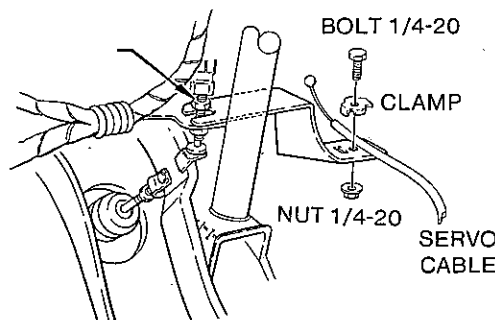

Figure 22
28. Once servo cable clamp is mounted, extend servo cable over bracket and secure with clamp, 1/4 inch bolt and nut supplied—do not tighten. **NOTE:** Once the servo cable is clamped, cable should point directly at connection at linkage. See **FIGURE 22**.